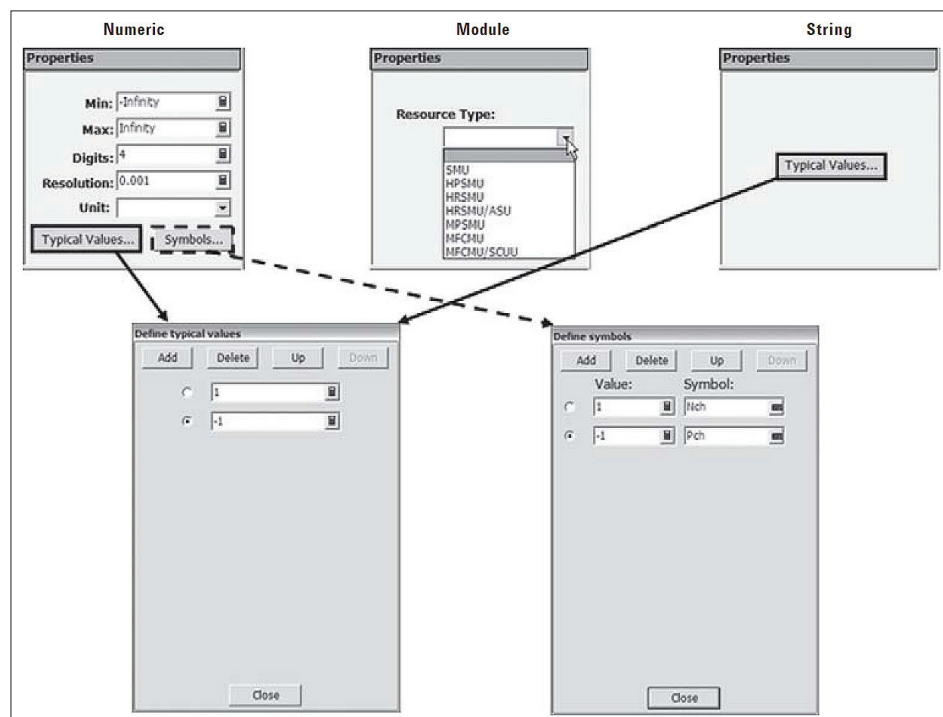

Figure 11. Numeric, Module and String Properties windows
1. Click Typical Values in the first Properties window, shown in Figure 11. The Define Typical Values window appears
1. Click Symbols in the first Properties window, shown in Figure 11. The Define Symbols window appears.